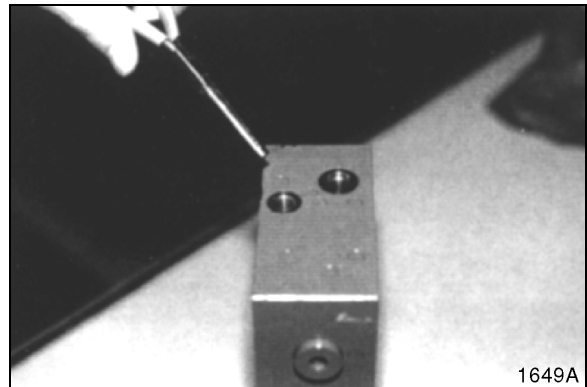

Figure 56
11. Detach guide using pliers or a wire (about 1 mm [0.039"]). See Figure 56.